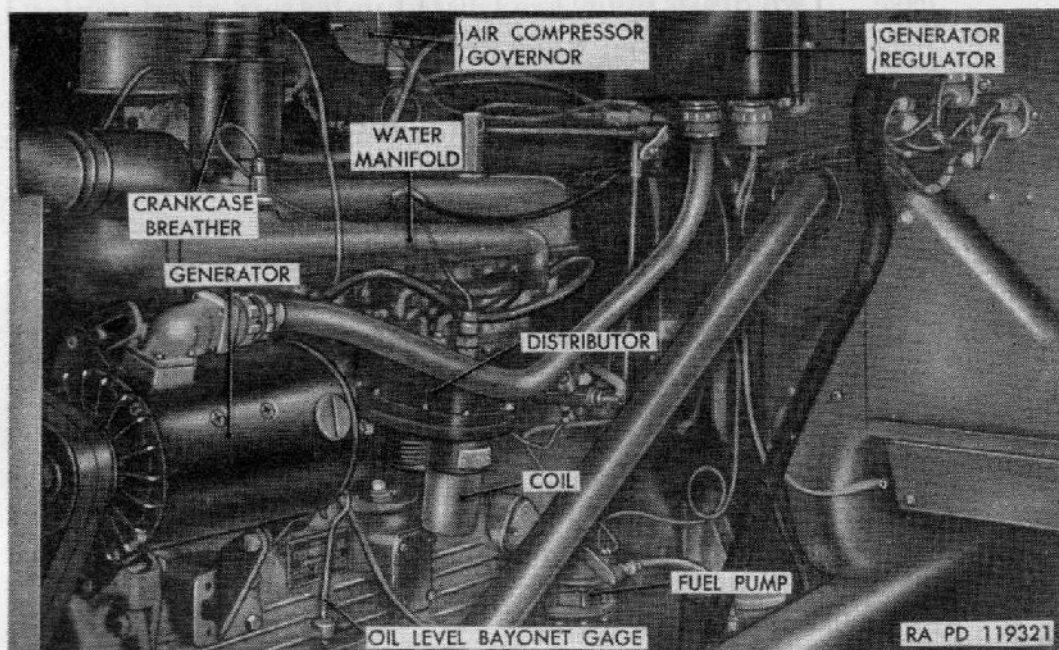
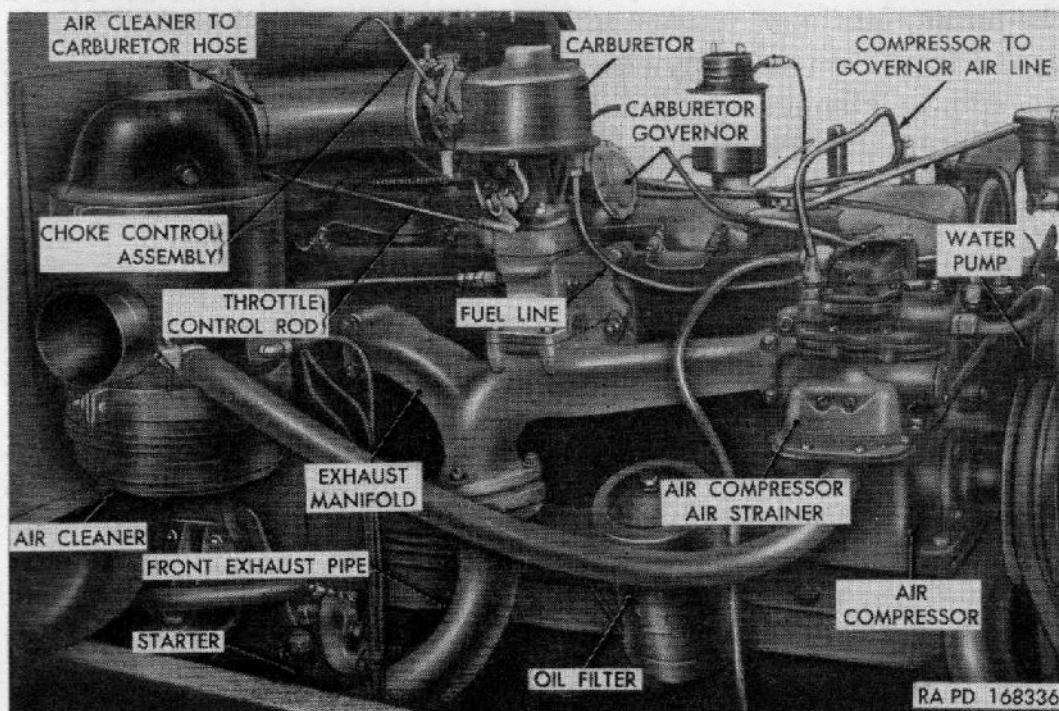

Figure 37. Left side of engine—installed.
Figure 38. Right side of engine—installed.
- (1) *Engine.* These trucks are powered by a gasoline-type, six-cylinder, four-cycle, water-cooled engine (figs. 37 and 38), with overhead valves, and removable-wet-sleeve cylinders. The radiator, engine, transmission, and clutch are considered
- (2) *Intake and exhaust manifolds.* Both intake and exhaust manifolds are on the right side of cylinder head (fig. 38). The intake manifold is cast integral with cylinder head and is provided with mounting pads for the exhaust manifold. A manifold-heat-control valve assembly, mounted over an opening in the exhaust manifold (fig. 43) provides a direct
- (4) *Oil filter.* A replaceable-element oil filter is mounted on the right side of the engine (fig. 38). Band clamps around filter secure it to a bracket mounting on side of crankcase. A portion of the engine oil is continuously passed through filtering element and returned to crankcase.
- (4) Disconnect distributor primary cable at distributor (fig. 69). Remove harness clip from water manifold and place harness over top of generator regulator (fig. 37).
- (5) Disconnect spark-plug cables at spark plugs (par. 129 a).
- (6) Disconnect compressor-to-governor air line (fig. 38) at governor (fig. 37).
- (7) Remove valve-rocker-arm cover (par. 90).
- (8) Remove cap screws from radiator-stay-rod bracket at cylinder head and turn rod to clear. Detach two air lines, and fuel line from bracket.
- (9) Disconnect compressor-to-governor air line at compressor (fig. 38) and remove line.
- (10) Disconnect fuel line from front of carburetor (figs. 37 and 38), two carburetor governor lines from left side of carburetor (par. 110). Pull lines clear. Disconnect shut-off-valve-control wire from manifold heat control shut-off valve at carburetor.
- (11) Disconnect throttle control rod and choke control assembly at carburetor (fig. 38).
- (12) Disconnect air cleaner-to-carburetor hose by loosening hose clamp at carburetor (fig. 38). Pull hose clear.
- (14) Remove three bolts and nuts from exhaust-pipe flange at exhaust manifold (fig. 38).